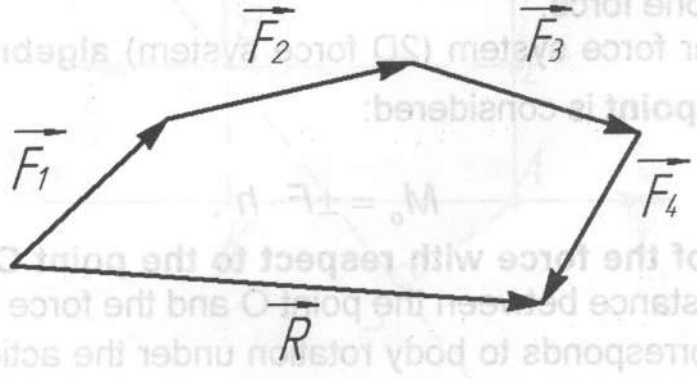

Fig. 1.4
- geometrically, constructing a vector force polygon drawing every next vector from an end of previous one; closing vector will be resultant (Fig. 1.4);